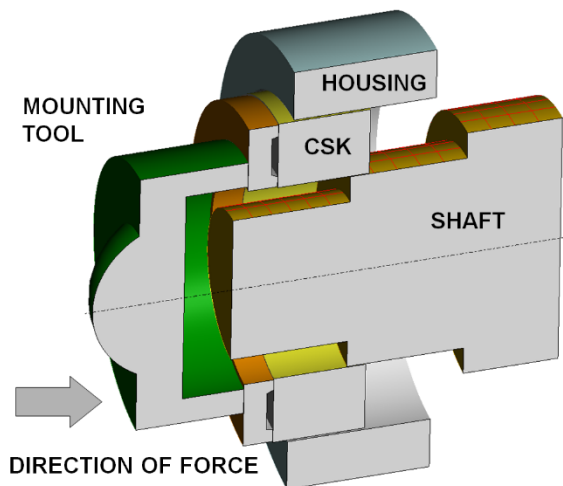

Figure 3: Mounting tool
- Press or push (with keyway) the inner and outer race simultaneously. Use appropriate mounting tools (see Fig.3), whereby the tool should be provided with an undercut for the plastic cage.